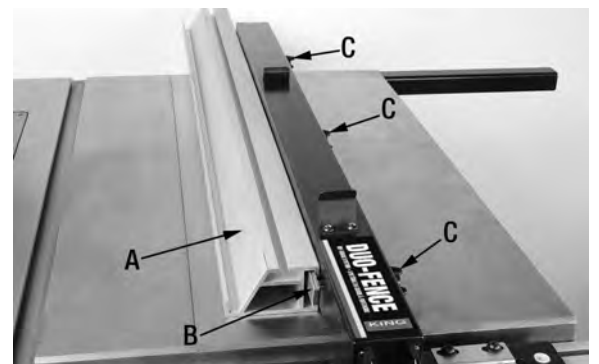

FIGURE 36
- 5) This rip fence comes with an aluminum guide (A) Fig.36 which can be positioned in a horizontal or vertical position. The aluminum guide is secured to the rip fence body with T-slot plates and bolts (B) positioned in the respective slot of the aluminum guide, and locked in place by tightening the 3 lock knobs (C).